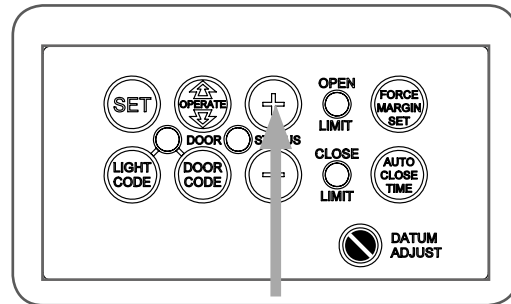

fig 34
- Make sure the door is closed, then press and hold the PLUS (+) button for six (6) seconds (**Fig.34**) until you hear three beeps and the OPEN and CLOSE LEDs flash rapidly.